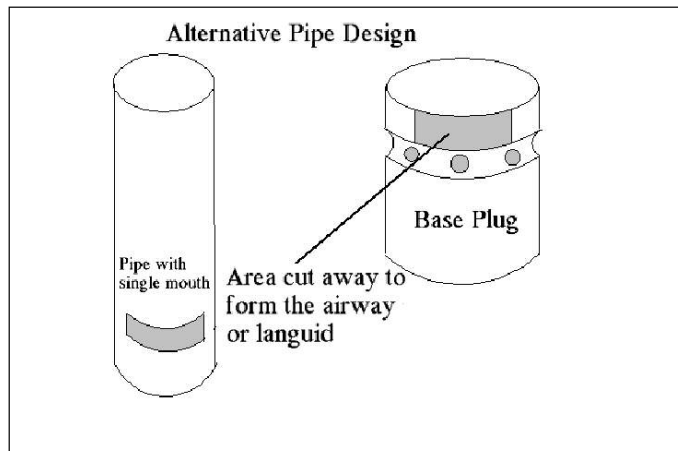

Figure 18. The alternative pipe design used for the pipes needed to make a 48-note calliope.
Construction details for these pipes differ very little from the calliope pipes above. The greatest differences are (1) a single mouth which is a third of the circumference of the pipe and much higher (that is the gap or mouth is almost half as much again) and (2) The base plug has the air gap going only a third of the circumference (Figure 18).